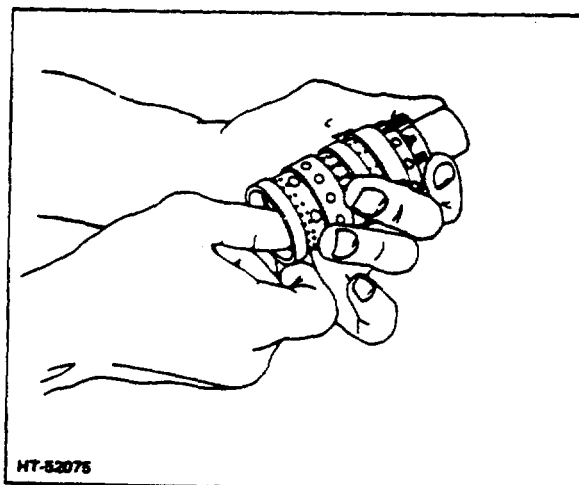

Figure 3-11. Removing Spool From Sleeve
18. Push inside lower edge of spool so the spool moves toward the splined end, and remove spool carefully from the sleeve (Fig 3-11).